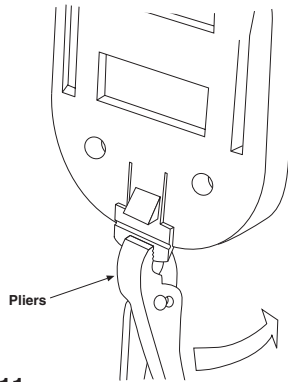

Figure 12
4. Bend the tab backward until it breaks off (**Figure 12**).